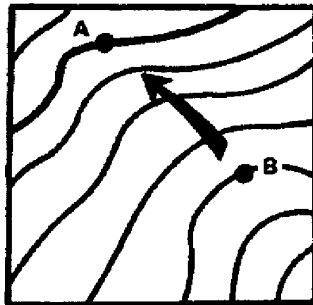

Figure C-23. Contour lines
a. The brown lines on the map are called contour lines. Each line shows the height above sea level. Contour lines never cross one another. Printed at the bottom of the map is the contour interval, which is the difference in height (elevation) between one brown line and the one on either side of it. On a map with a scale of 1:50,000, the contour interval is usually 20 meters. This would make point A 80 meters higher or lower than point B (figure C-23).